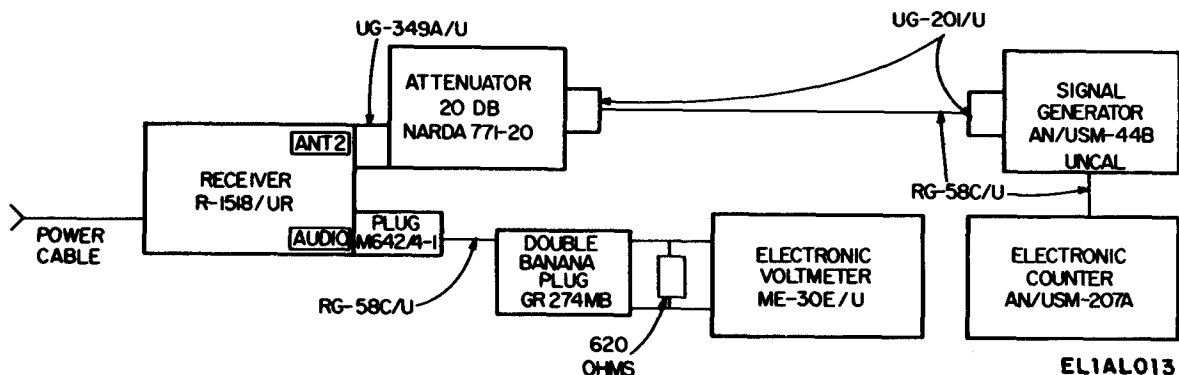

Figure 6-5. Dial readout error test connection.
(1) Perform a (1) above.
(2) Connect the test equipment as shown in figure 6-5.
(3) Set the receiver controls as follows: